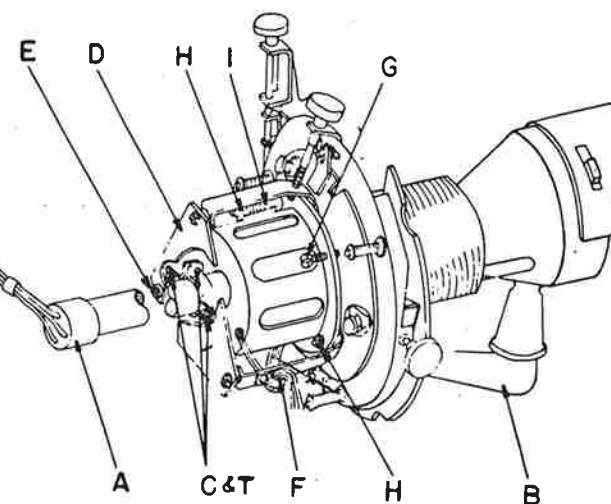

Figure 5-1—Focus Coil Replacement
c. **REPLACEMENT OF FOCUS COIL ASSEMBLY:** (See figure 5-1).